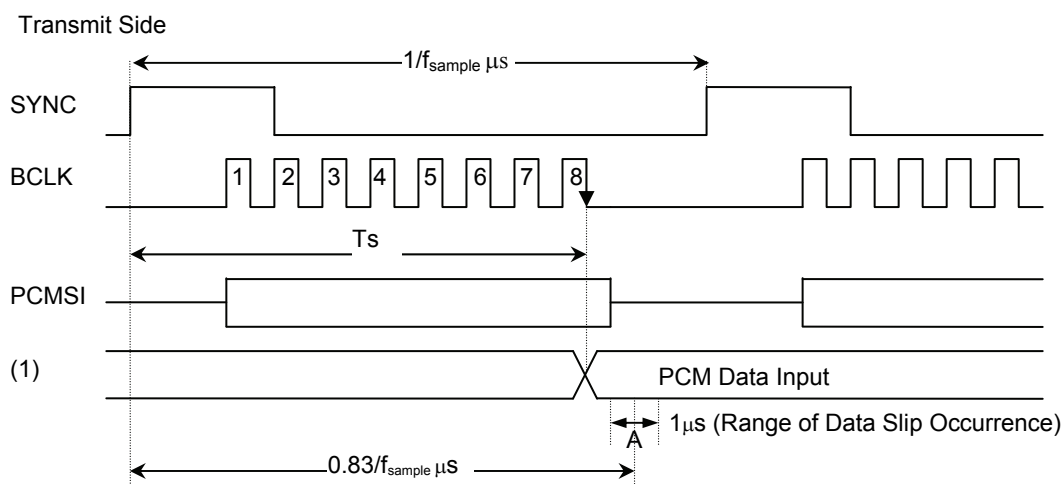

Figure 6
If T_S : PCM signal output (1) after serial/parallel conversion and A: internal latch timing in Figure 6 overlap, a data slip occurs.
2. When the ADPCM signal (IR) is captured